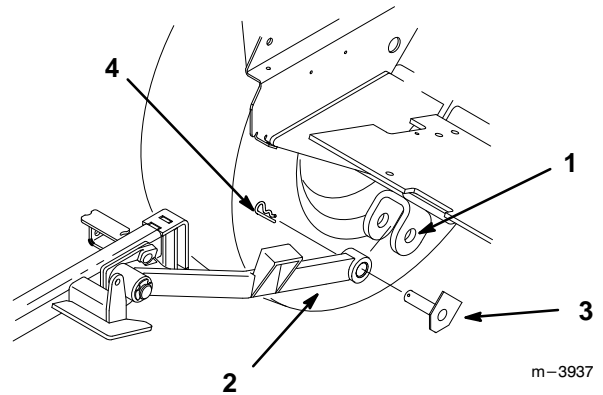

Figure 2
1. Position carrier frame in front of traction unit and place push arms into clevises (Fig. 2).
2. Retain push arms with pivot pin assemblies, aligned with flat against frame, and secure with hairpin cotters (Fig. 2).